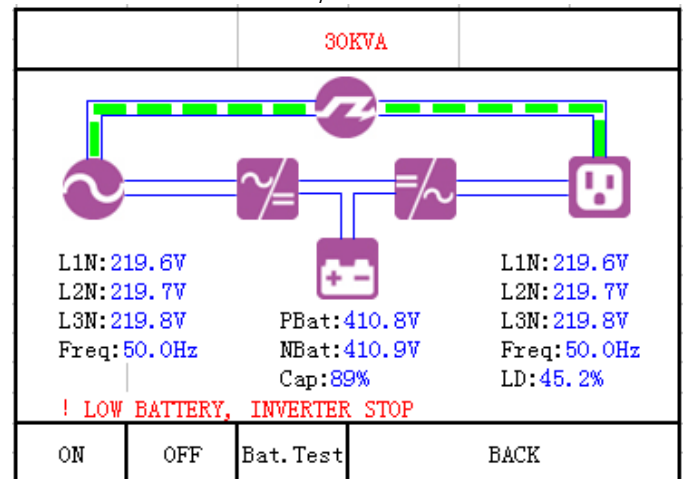

Fig.43. Screen 1.0 Control Screen
**7.3.2. "CONTROL & STATUS OF THE UNIT" Level (screen menu 1.0). See Fig. 43.**